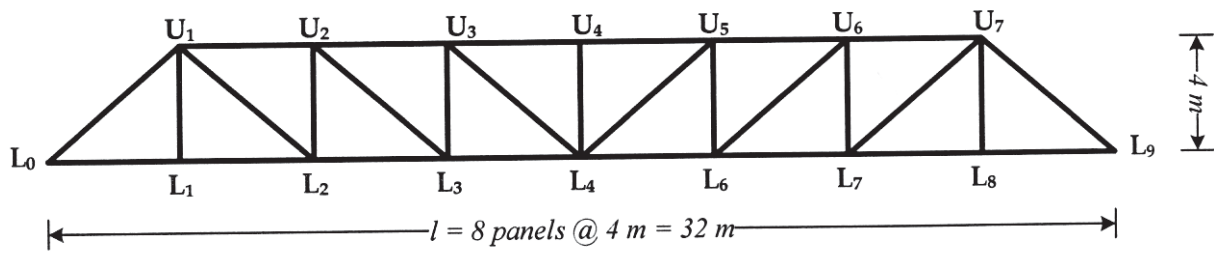

Fig. 2
- Q5)** The effective span of the through type highway bridge shown in Fig. 2 is 32m. The bridge has a carriage way of 7.5 m along with two footpaths of 1.5 m on either side. The thickness of the deck slab is 300 mm. The thickness of wearing coat is 80 mm. The bridge is required to carry IRC class 70R loading. Design the members L_0U_1 ; L_1U_1 ; L_2U_1 ; and U_1U_2 . Design the joint at L_1 . Sketch the details of the connections. [25]